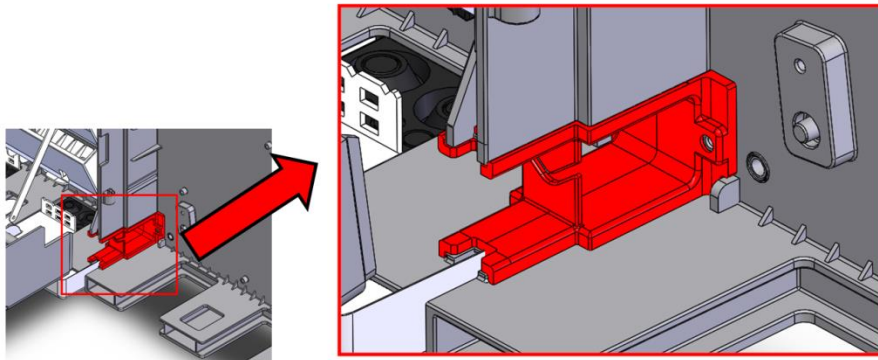

Fig. 10
3.3.4. Connect both Products (Fig. 10)